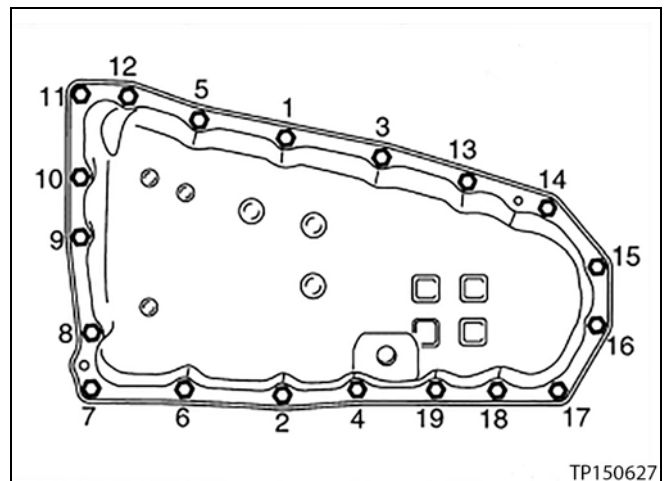

Figure 99
11. Install the oil pan bolts (see Figure 99).
- Torque the oil pan bolts in the sequence shown in Figure 99.